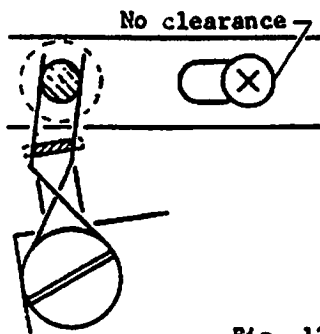

Fig. 139
- 2) Bend Spring (aRSH7175) so as to leave no clearance between the other side of slit and screw as shown in Fig. 139.